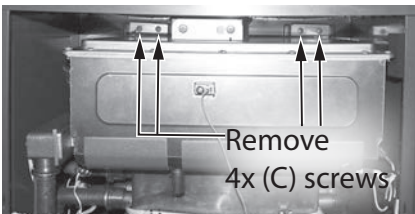

Figure 154 - Removing secondary HEX (C) screws
- 46** Locate the two brackets and four (C) screws securing the secondary heat exchanger assembly to the backside of the water heater cabinet as shown in Figure 154. Use a 12" magnetized Phillips screwdriver to remove the screws. Place them aside in a safe place for reinstallation.
74 Locate the four secondary heat exchanger mounting screws previously removed in **Step 46**. Use a 12" magnetized Phillips screwdriver and four screws to secure the heat exchanger to the water heater cabinet. See Figure 154.